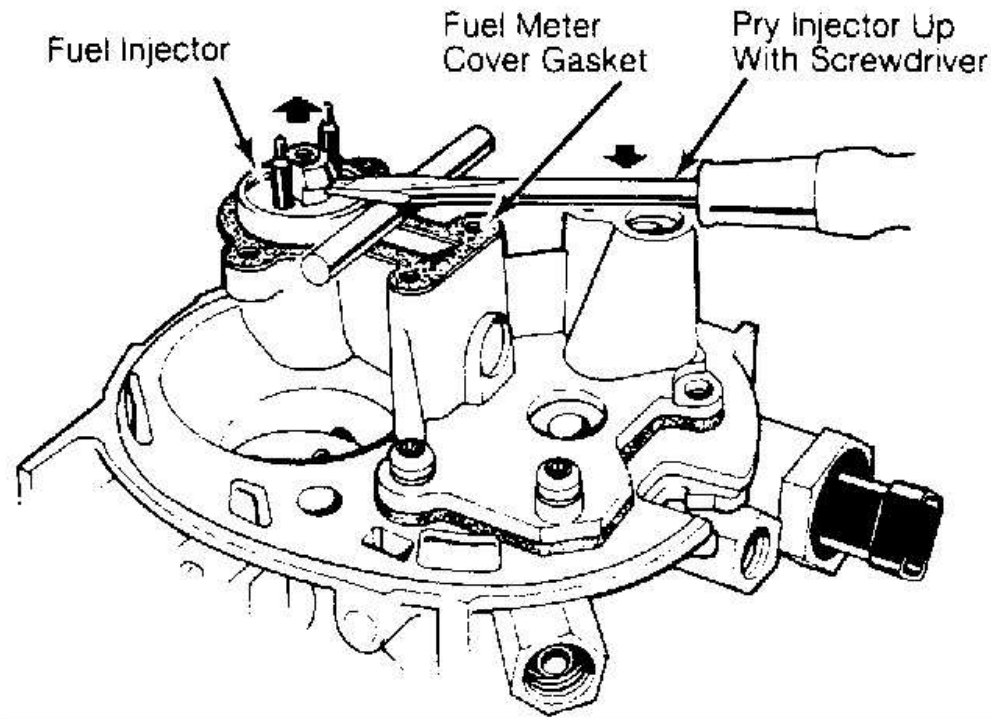

Fig. 7: Removing Fuel Injector Assembly Keep fuel meter cover gasket in place until injector is removed to prevent damage to casting.
1. With fuel meter cover gasket in place, use a screwdriver to carefully pry the injector from the fuel metering body. Carefully lift injector out with a twisting motion. Remove fuel meter cover gasket. See **Fig. 7**.